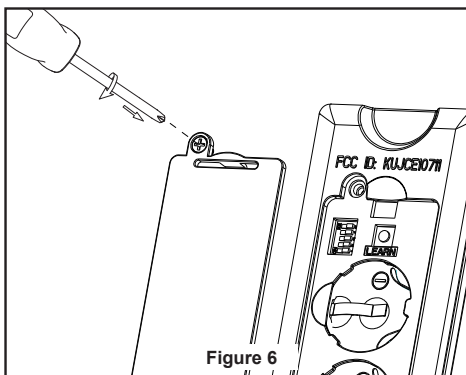

Figure 6
- ☐ 6. Replace battery cover on the remote control with previously removed screw by screwdriver. (Figure 6)